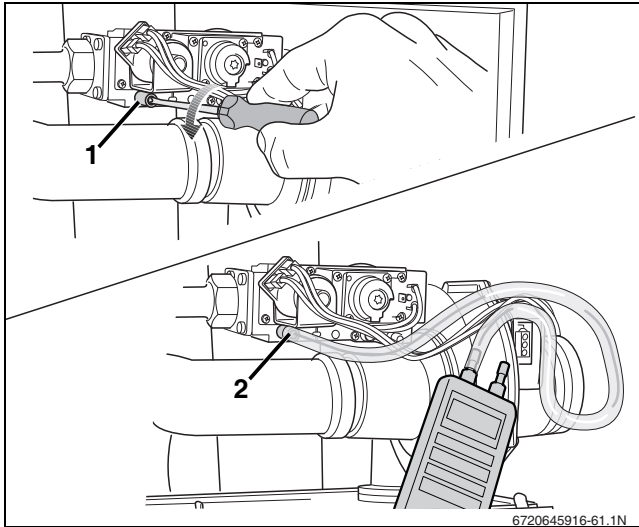

Fig. 64 Measuring the gas supply pressure
- Open the screw plug on the testing nipple for the gas inlet pressure by 2 turns (→ fig. 64, [1]).
- Connect the pressure gauge connection tube to the positive port of the testing nipple (→ fig. 64, [2]).